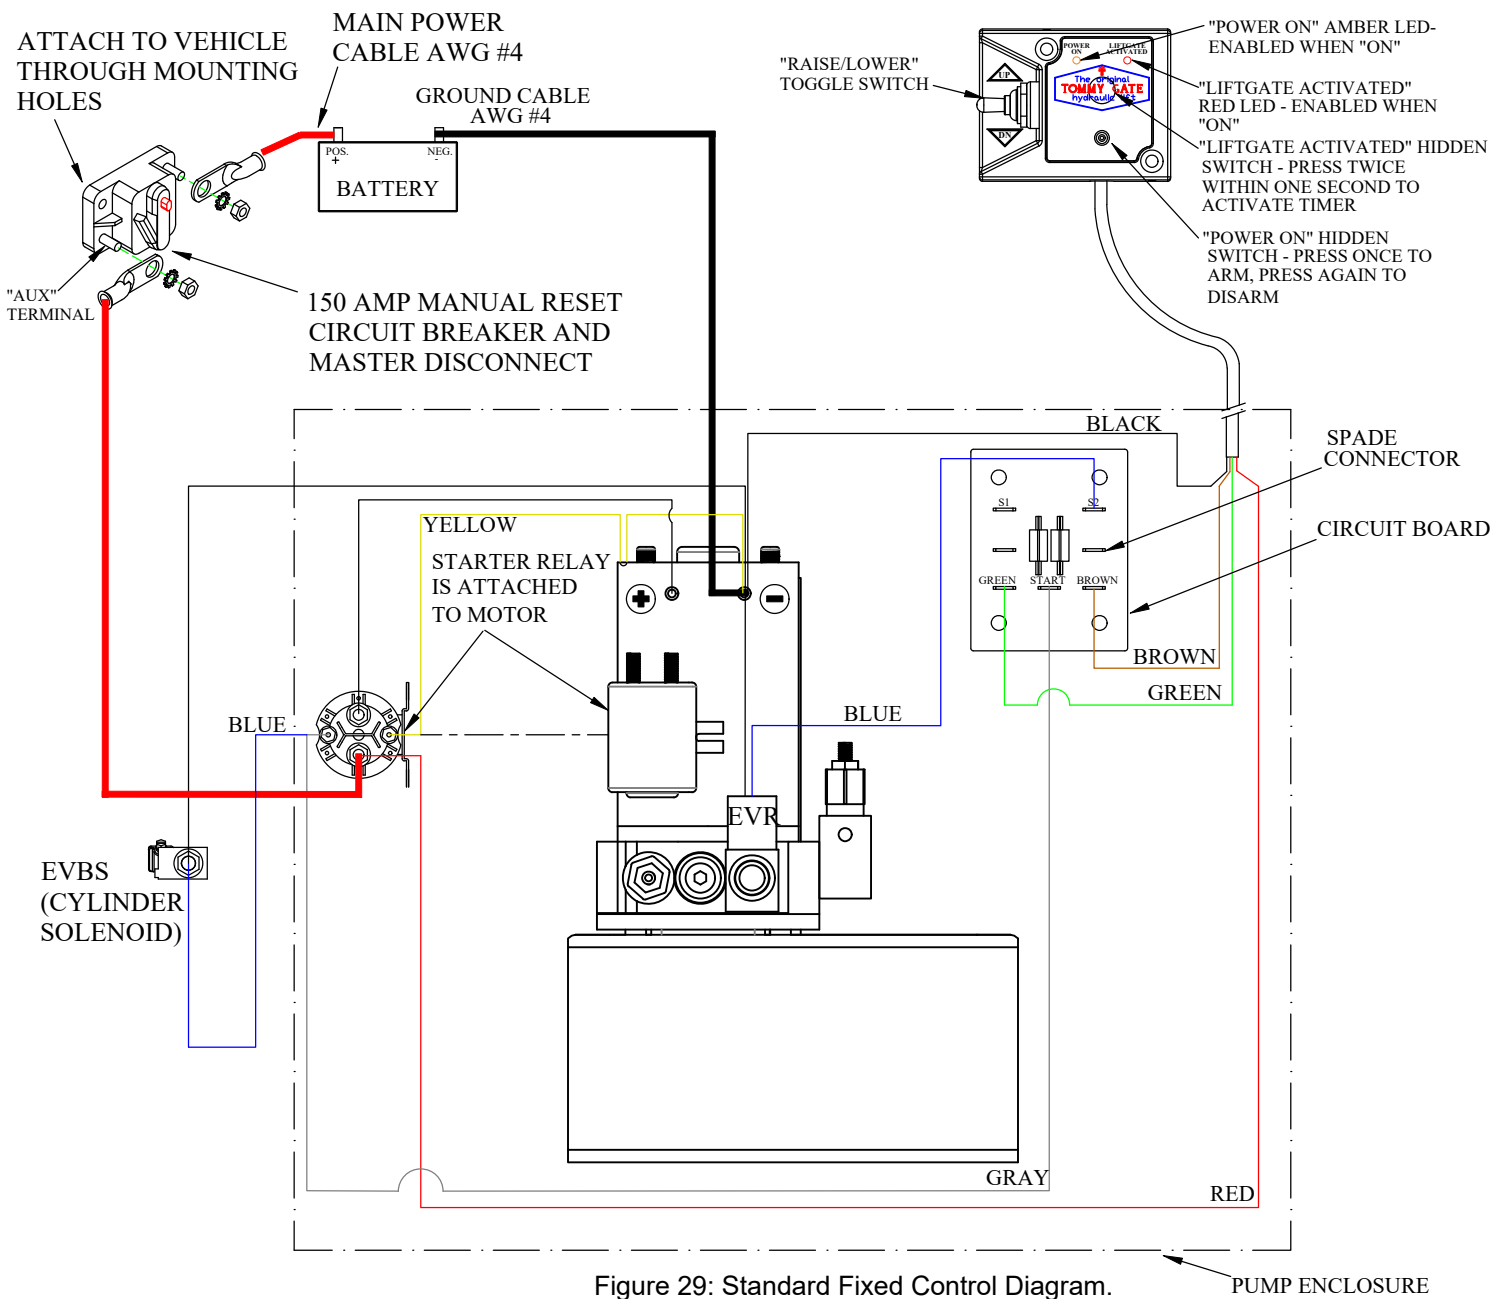

Figure 29: Standard Fixed Control Diagram.
14. **Connect** the circuit breaker and battery as outlined in the *Tommy Gate Recommended Electrical Wiring Guidelines* and wiring diagram (Figure 29 or Figure 30).